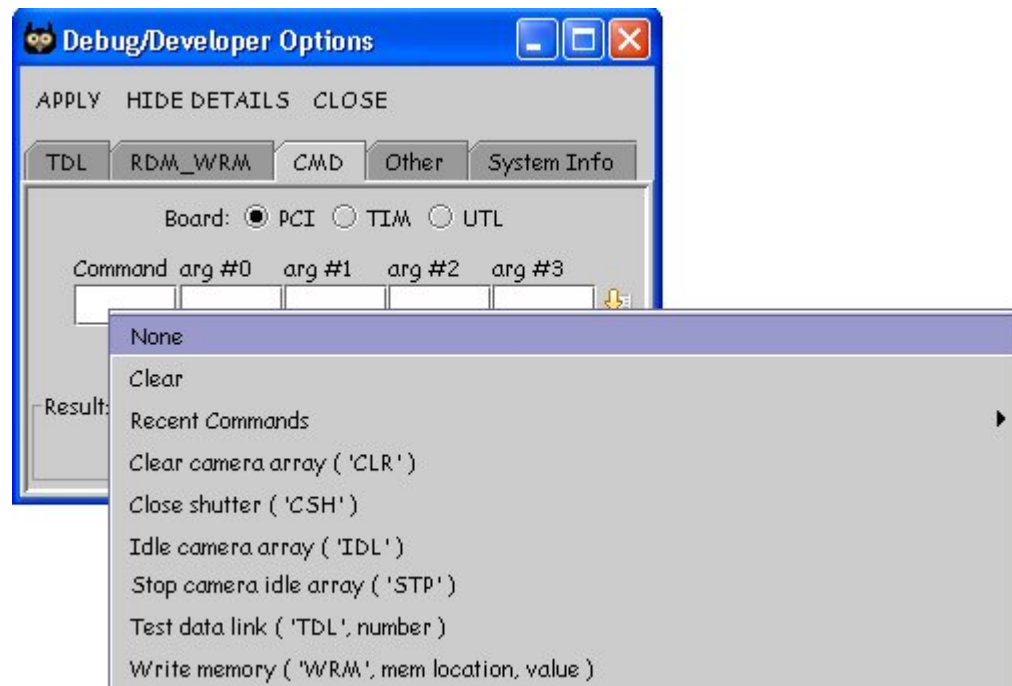

Figure 14. The general command window.
**CMD** – This command tab allows the user to send any allowable ASCII command to the PCI board, controller timing board, or controller utility board. The command argument may be a three letter string (upper or lower case) or the ASCII numerical value for the letters in the command. For example, ‘TDL’, 0x54444C, and 846876 are all valid (minus the ‘’ and 0x). The *decimal/hexadecimal* option allows the input and output to be in the selected radix. Selecting this option will automatically change all values to the newly selected radix. Clicking the down arrow button  will pop up a menu from which the user may select a command. The selected command will fill in the appropriate fields as specified in the command initialization file (OwlCmdList.ini). The menu will also contain the last four commands entered (along with their arguments). The commands available in the list are customizable through the *OwlCmdList.ini* file, which can be found in the Owl installation directory. See “Customizing the Debug Command List” section for further details. See figure 14.